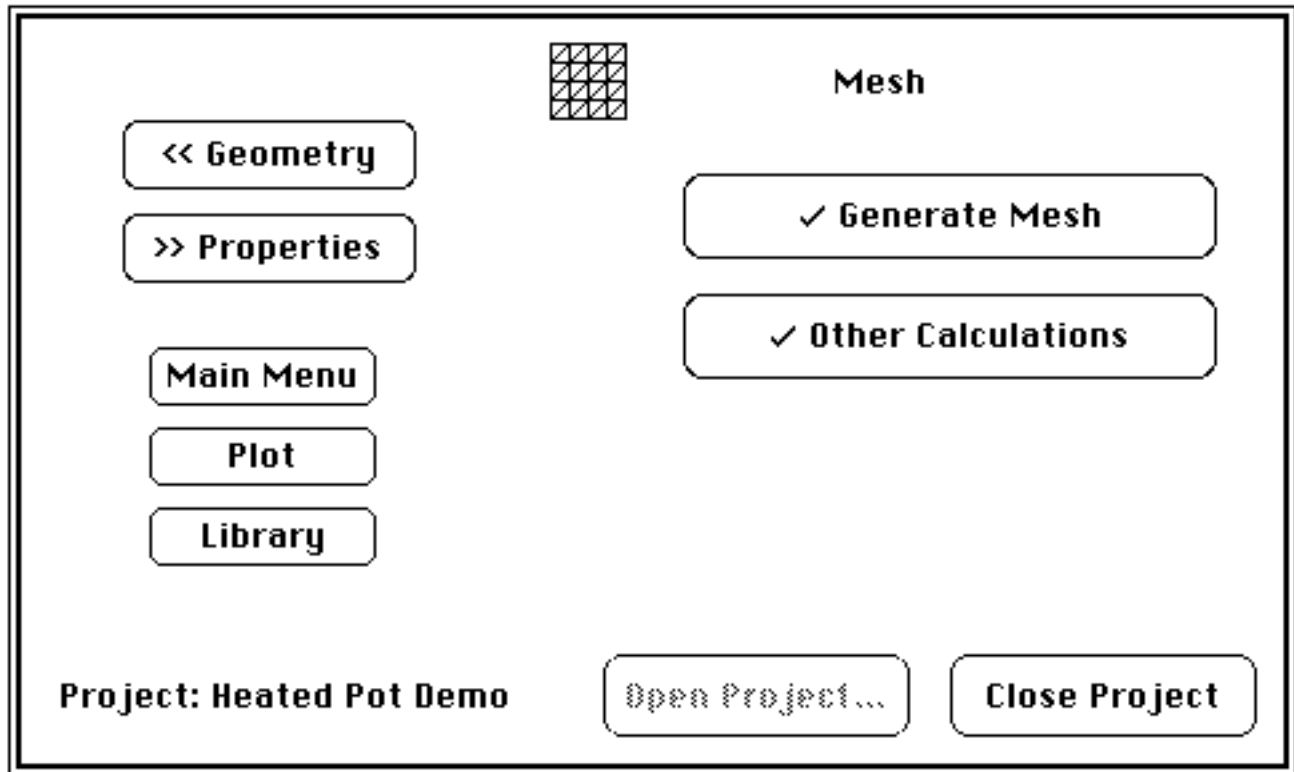

Fig 2.18 Mesh module entry
The mesh module has two phases: the automatic mesh generator 1) takes each properly defined region and breaks it into triangular areas referred to as "elements" (Generate Mesh) and 2) automatically renumbers the element vertices, referred to as nodes, to improve computational efficiency (Other Calculations). Check marks indicate that these calculations have been completed in the demo examples. If a project had not already been selected, you would be required to do that at this point. Mesh (Fig 2.18) allows you to branch to other parts of MP.
- Click Generate Mesh (Fig 2.18).
The Mesh module screen (Fig 2.18) reappears.
- Select Other Calculations (Fig 2.18).
- Select Properties from the File menu or click the *>>Properties* button (Fig 2.18) to continue, *or*